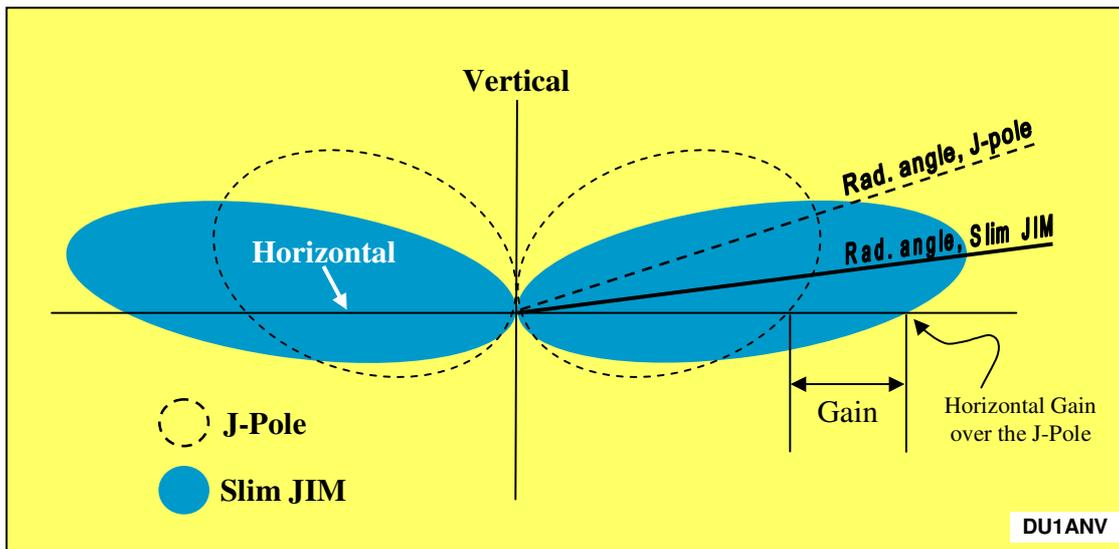

Fig. 3. The vertical angle of radiation and pattern of the J-Pole and Slim JIM antenna
The double wave and in-phase signal pulls the angle of the radiation pattern downwards towards the horizon with a slight elongation, hence the claimed horizontal gain of 6dB over the J-Pole. The vertical radiation pattern of the Slim JIM compared to the J-Pole is shown in Fig. 3.
2. The power gain of the Slim JIM in the horizontal plane is 6 db (as claimed) over the J-pole (see Fig. 3)
Reference antenna : J-pole (see pattern in Fig. 3). Designated as 0 dB point when **47.75 mW** of RF power is driving it as per above calculations.